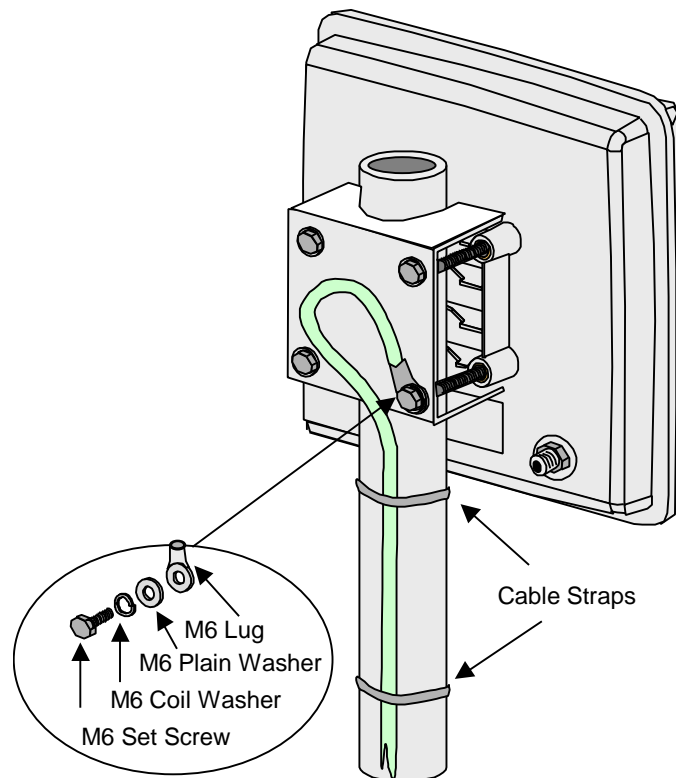

Figure 22 Lightning Protection for Exposed Pole Mounted Antenna
4. Fit a 6mm lug to the cable at the antenna end. Attach to the pole mount bracket using the lower right M6 set screw as shown in Figure 22